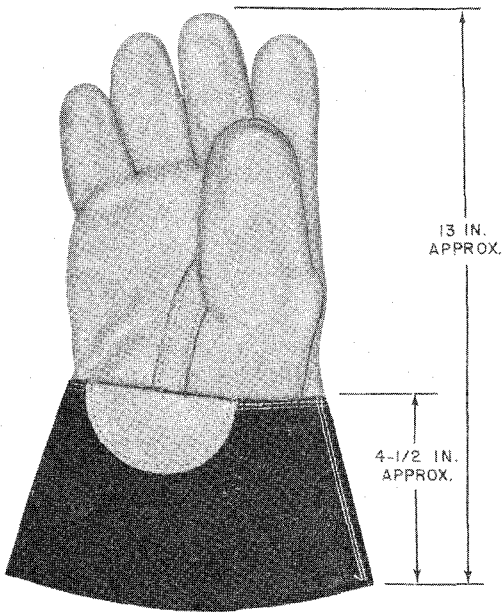

Fig. 2—Leather Protector Glove
4.01 The B (MD) or C (MD) leather protector gloves (Fig. 2) shall always be worn over B, C, or E insulating gloves to prevent mechanical damage to the insulating gloves. ♦The D leather protector gloves **must** be used with F insulating